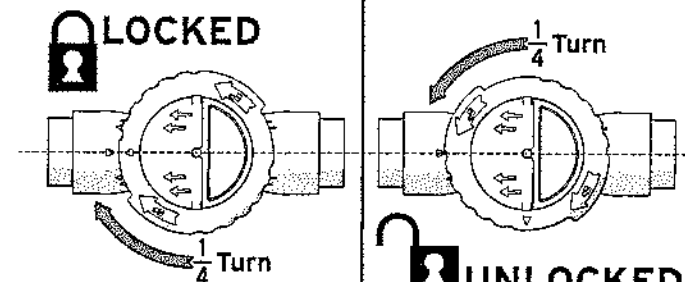

Figure 1. Operation of TruClear™ Lock Ring
3. Turn the lock ring 1/4 turn counter clockwise. See Figure 1.
2. Turn the lock ring 1/4 turn clockwise to engage the lock. See figure 1.